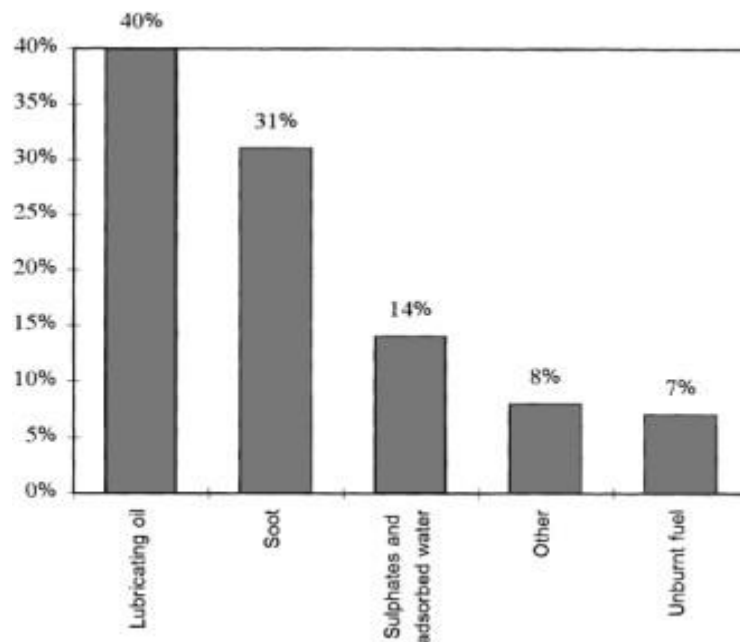

Figure 5 Particulate composition of diesel engine exhaust
**Particulates:** Basically, soot emissions are part of particulate emissions. Soot formation occurs at extreme air deficiency. This air or oxygen deficiency is present locally inside diesel engines. It increases as the air/fuel ratio decreases. Soot is produced by oxygen deficient thermal cracking of long-chain molecules. A separation of hydrogen leads to C-structures showing an increasing lack of hydrogen. Acetylene and other polymerization processes lead to formation of molecules rich in carbon that form soot particulates (Homann, 1985). Once soot has formed, it can be oxidized only to a limited extent. Soot formation produces molecules with an increasingly low hydrogen content and higher weight that will finally agglomerate to form soot particulates. Particulates consist of solid (organically insoluble) and liquid (organically soluble) phases. The solid phase consists of amorphous carbon, ash, oil additives, corrosion products and abrasion products. The liquid phase consists of fuel and lubricant contents which are, in most cases, combined with soot. The hydrocarbons contained in the hot exhaust are still largely gaseous and are converted into a liquid, organically soluble phase (particulates) after cooling by turbulent intermixing with air. Particulate composition is largely dependent on the operating point and the combustion process. Figure 5 shows a typical particulate composition of diesel engine exhaust. Figure 6 illustrates how various parts of the fuel jet and the flame affect the formation of NO, unburnt HC and soot during the pre-mixed and mixing-controlled phases of diesel combustion in a direct-injection engine with swirl (Heywood, 1988).